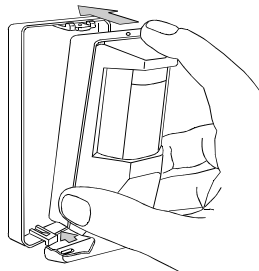

Figure 4. Remounting the cover
- B. To remount the cover, insert the legs at the bottom of the base into their respective slots in the bottom of the cover and close by exerting slight upward pressure (Figure 4).